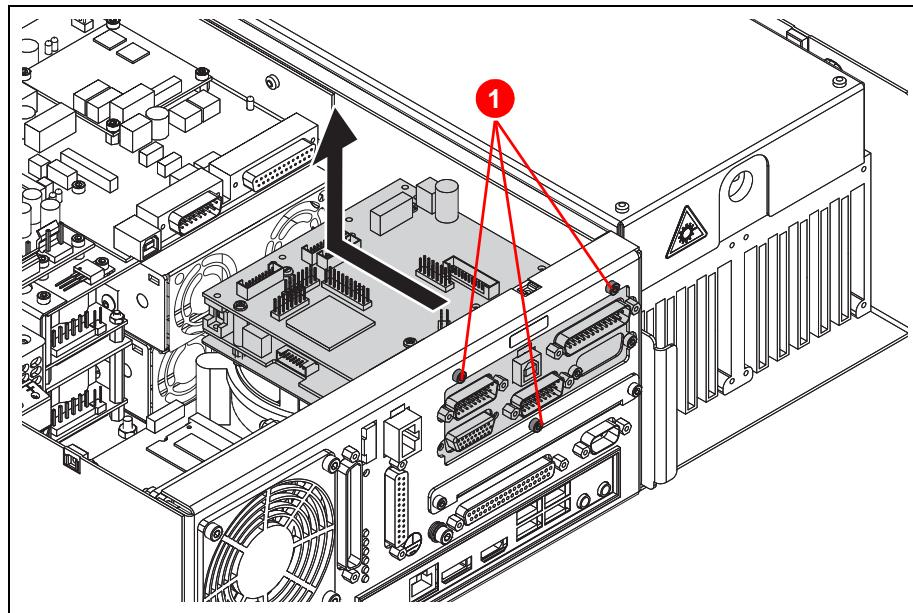

Figure 3.55 ALI-USB
2. Unscrew the three fastening screws (1) (Figure 3.55) on the ALI-USB.